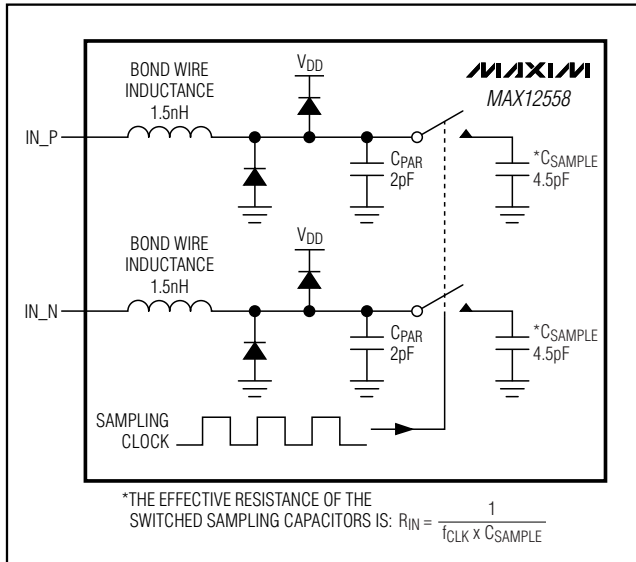
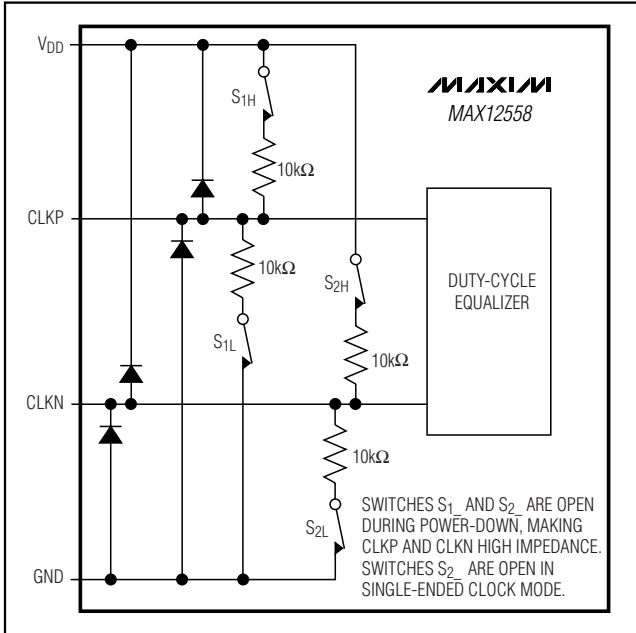

Figure 3. Internal T/H Circuit
Figure 4. Simplified Clock Input Circuit
Figure 3 displays a simplified functional diagram of the input T/H circuit. This input T/H circuit allows for high analog input frequencies (high IF) of 175MHz and beyond and supports a $V_{DD} / 2$ common-mode input voltage.
The MAX12558 sampling clock controls the switched-capacitor input T/H architecture (Figure 3) allowing the analog input signals to be stored as charge on the sampling capacitors. These switches are closed (track mode) when the sampling clock is high and open (hold mode) when the sampling clock is low (Figure 4). The analog input signal source must be able to provide the dynamic currents necessary to charge and discharge the sampling capacitors. To avoid signal degradation, these capacitors must be charged to one-half LSB accuracy within one-half of a clock cycle. The analog input of the MAX12558 supports differential or single-ended input drive. For optimum performance with differential inputs, balance the input impedance of IN_P and IN_N and set the common-mode voltage to mid-supply ($V_{DD} / 2$). The MAX12558 provides the optimum common-mode voltage of $V_{DD} / 2$ through the COM output when operating in internal reference mode and buffered external reference mode. This COM output voltage can be used to bias the input network as shown in Figures 9, 10, and 11.
The MAX12558 accepts both differential and single-ended clock inputs with a wide 25% to 75% input clock duty cycle. For single-ended clock input operation, connect DIFFCLK/SECLK and CLKN to GND. Apply an external single-ended clock signal to CLKP. To reduce clock jitter, the external single-ended clock must have sharp falling edges. For differential clock input operation, connect DIFFCLK/SECLK to OV_{DD} . Apply an external differential clock signal to CLKP and CLKN. Consider the clock input as an analog input and route it away from any other analog inputs and digital signal lines. CLKP and CLKN enter high impedance when the MAX12558 is powered down (Figure 4).
- 1) INAP/B, INAN/B analog inputs are disconnected from the internal input amplifier (Figure 3).
- 6) CLKP, CLKN clock inputs enter a high-impedance state (Figure 4).